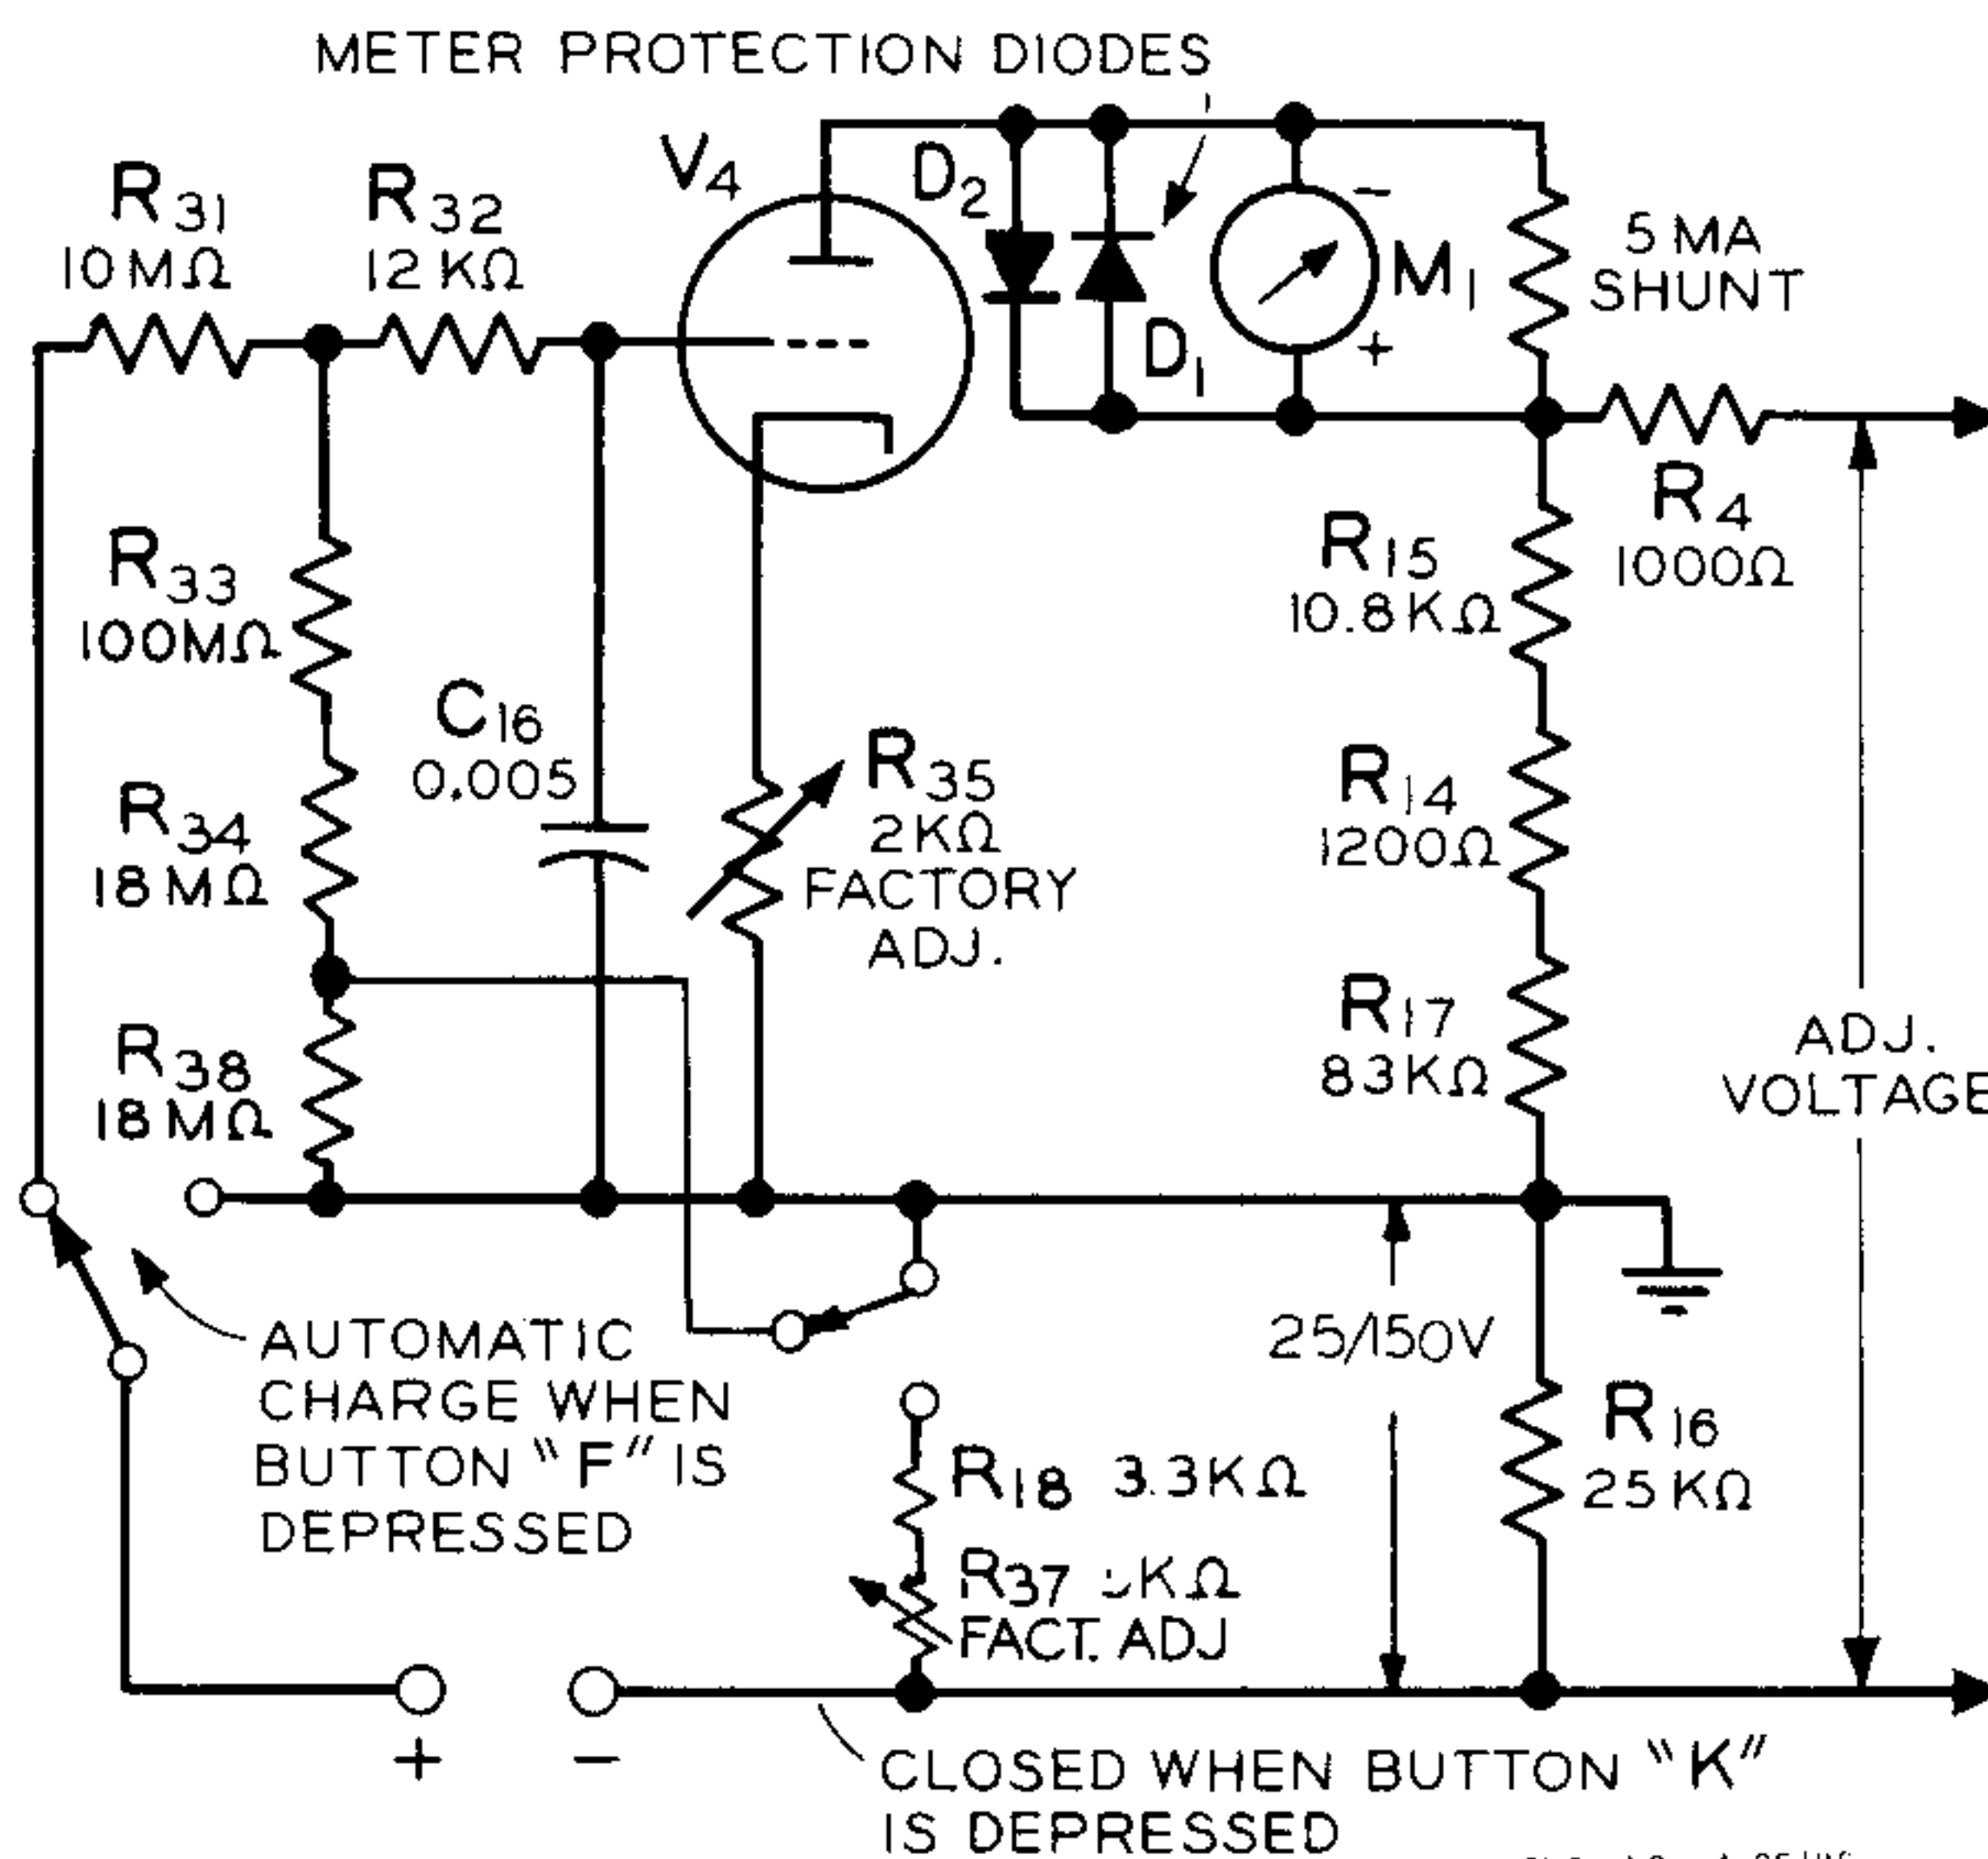

FIGURE 4
**3.1** The insulation resistance test is made only on electrostatic capacitors such as paper, mica, ceramic, etc. (Electrolytic capacitors are tested for leakage current as in section 4). The test circuit is shown in Figure 4. Passage of current thru the capacitor or other circuit element under test causes an increase in the negative bias on the grid of tube  $V_4$  and a consequent decrease in plate current. The plate current meter is calibrated directly in megohms.